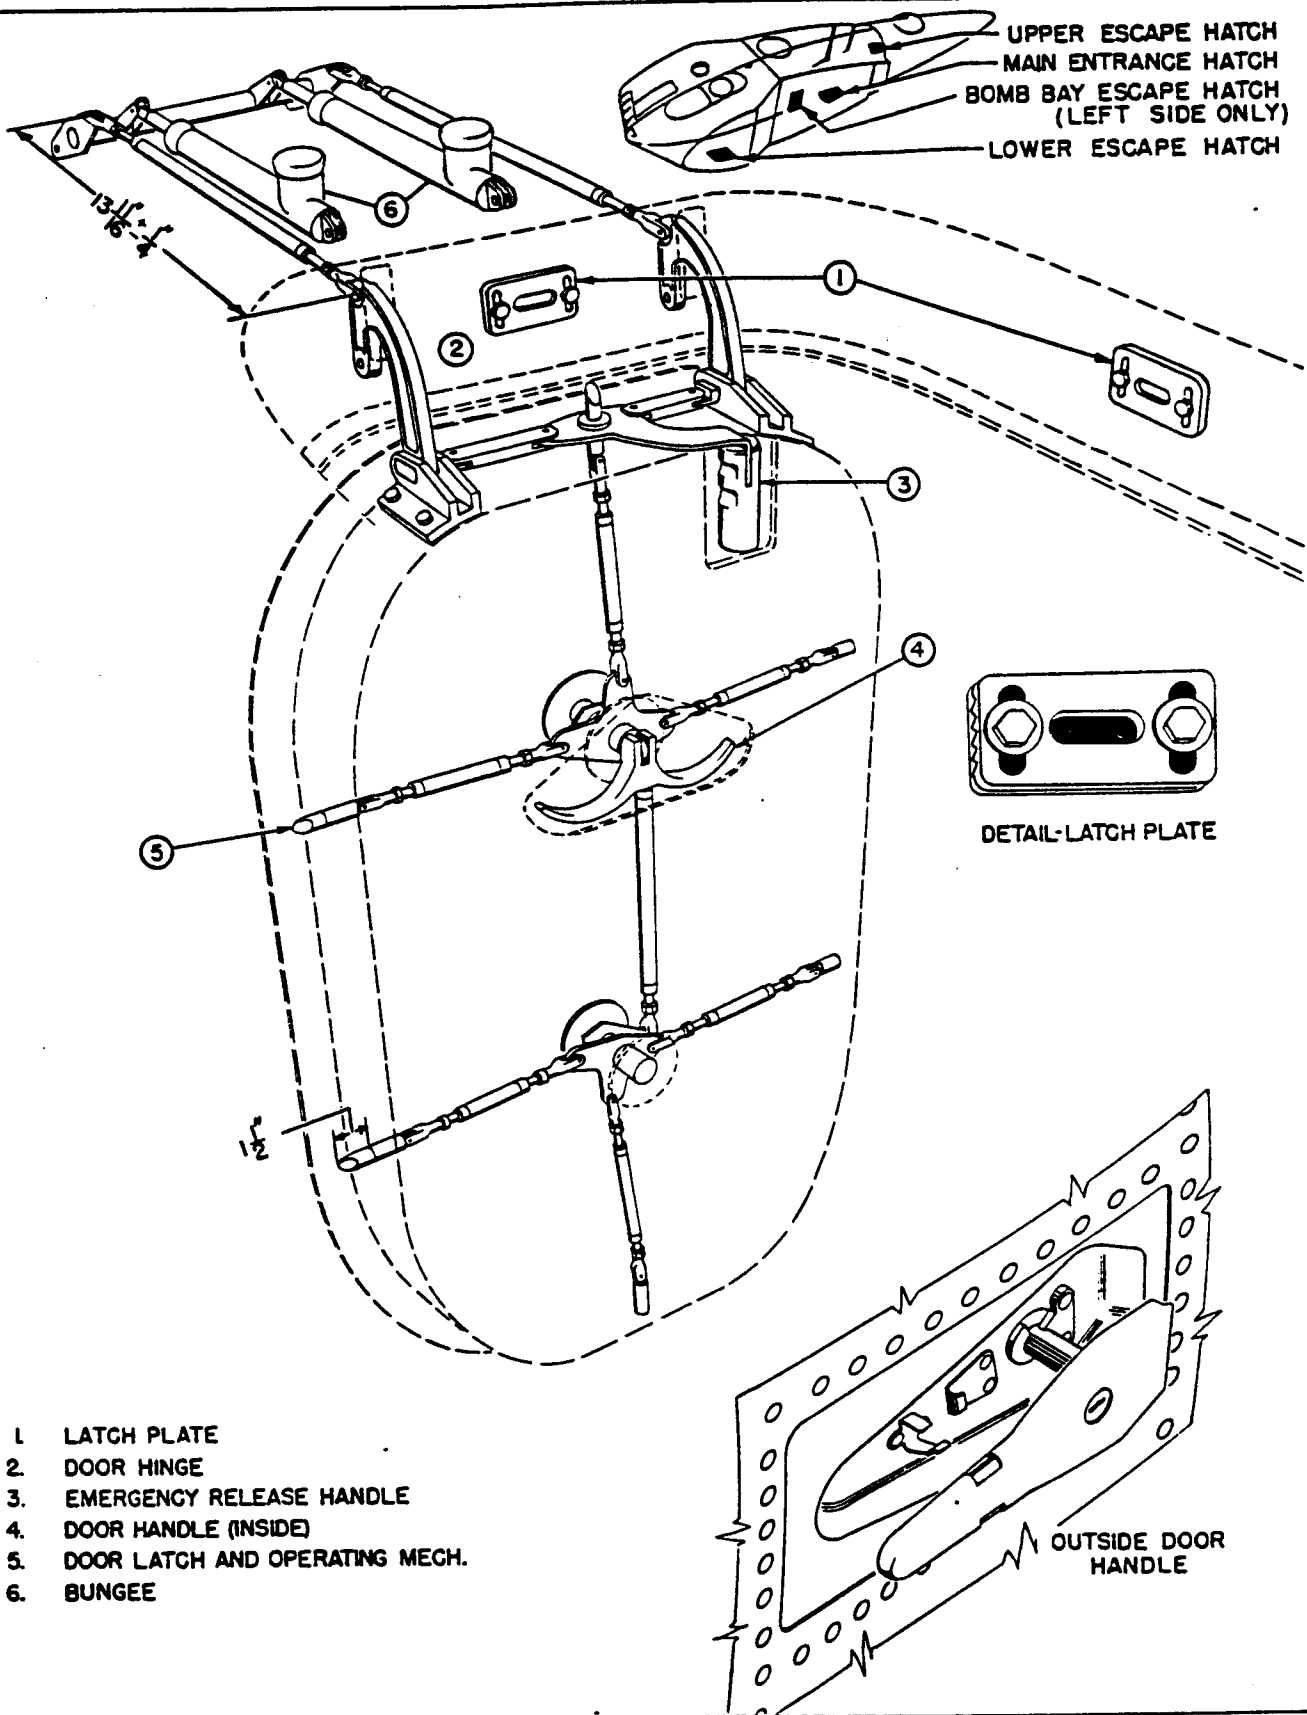

Figure 5. Main Entrance Hatch
3. Adjust the dogs that are secured to the structure around the opening. Loosen the screws and move the dogs as required so that the hatch fits snug against its rubber bumper and is faired to the outside contour. (See figure 5, view A.)
(b) MAIN ENTRANCE HATCH. (See figure 5.)
(4) LANDING FLAP CONTROLS. (See figure 5.)- The landing flaps are controlled by a switch located on the pilot's pedestal, and a flap position indicator is installed on the copilot's side of the instrument panel. The landing flap power unit, consisting of two electric motors and a gear box assembly, is situated in the top of the crew nacelle just aft of the rear wing spar. Torque tubes, connected by universal joints, are used to transmit torque to the flap actuating mechanisms in each wing.